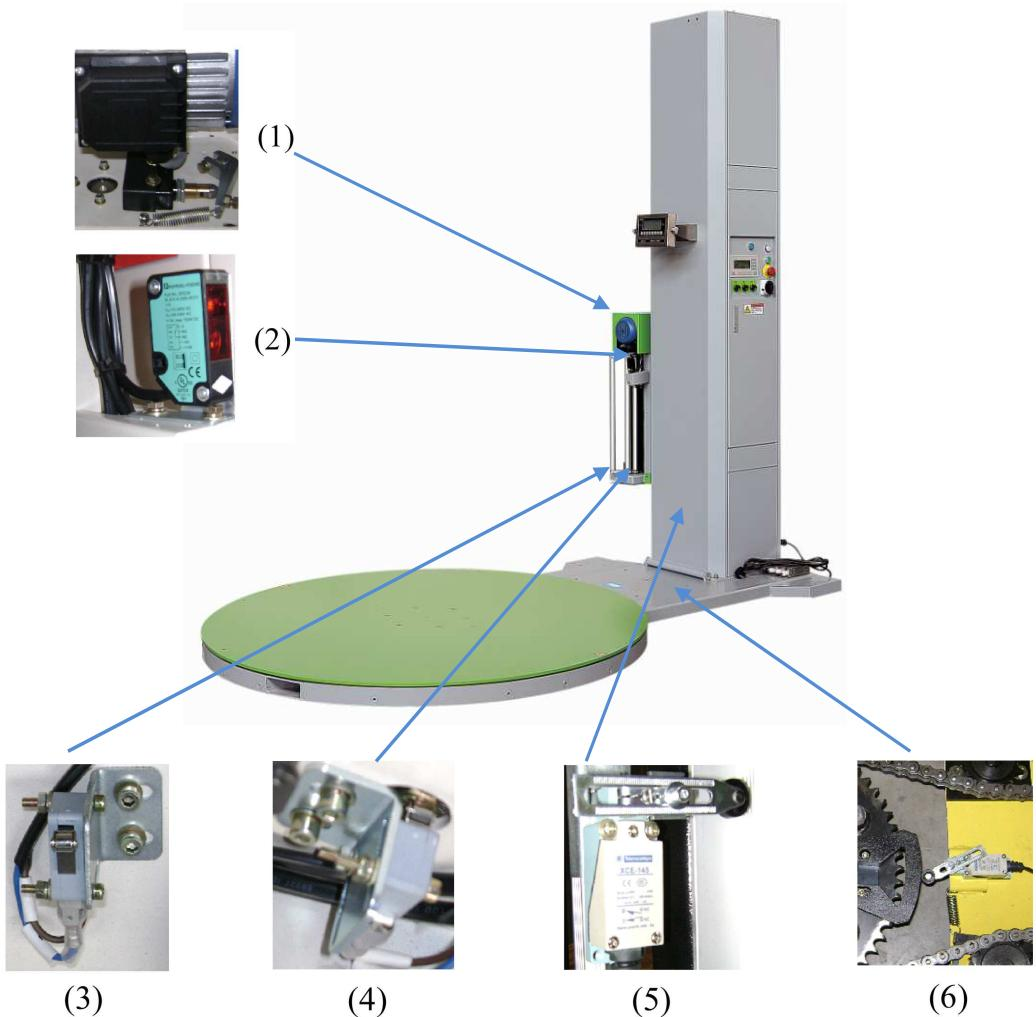

FIG 7
7. Top presser protection travel switch (FIG 7)